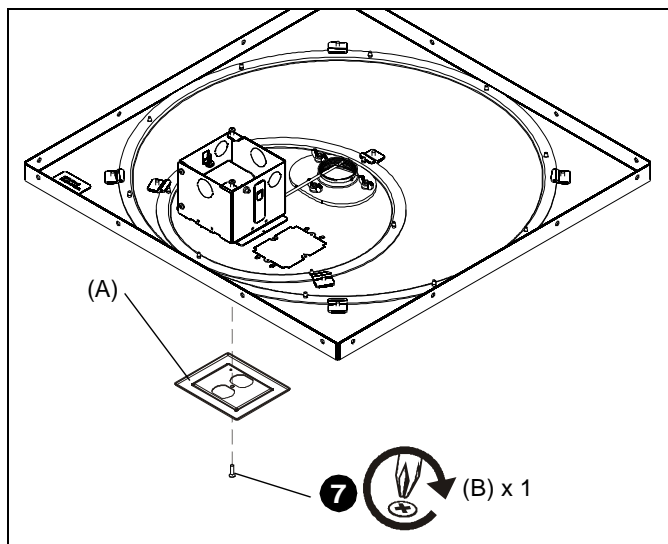

Figure 9
7. Attach face plate (A) using one 6-32 x 1/2" Phillips flat head screw (B) after the CMS445N has been installed. (See Figure 9)